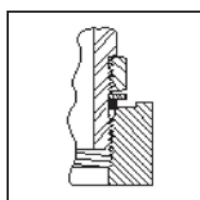

Fig. JA7
5. Position the fitting as required by backing out (ccw) up to one turn maximum. See Fig.JA7.